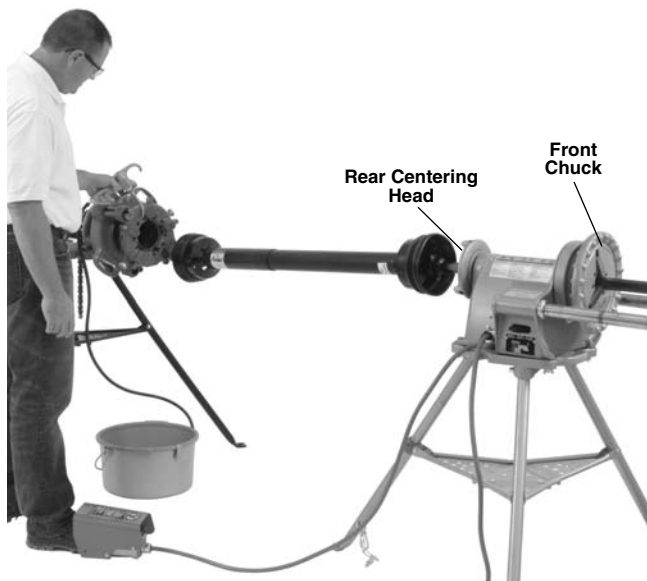

Figure 11 – Threading With Universal Driveshaft
10. Assume a proper operating position to help maintain control of the machine and process (see Figure 11).